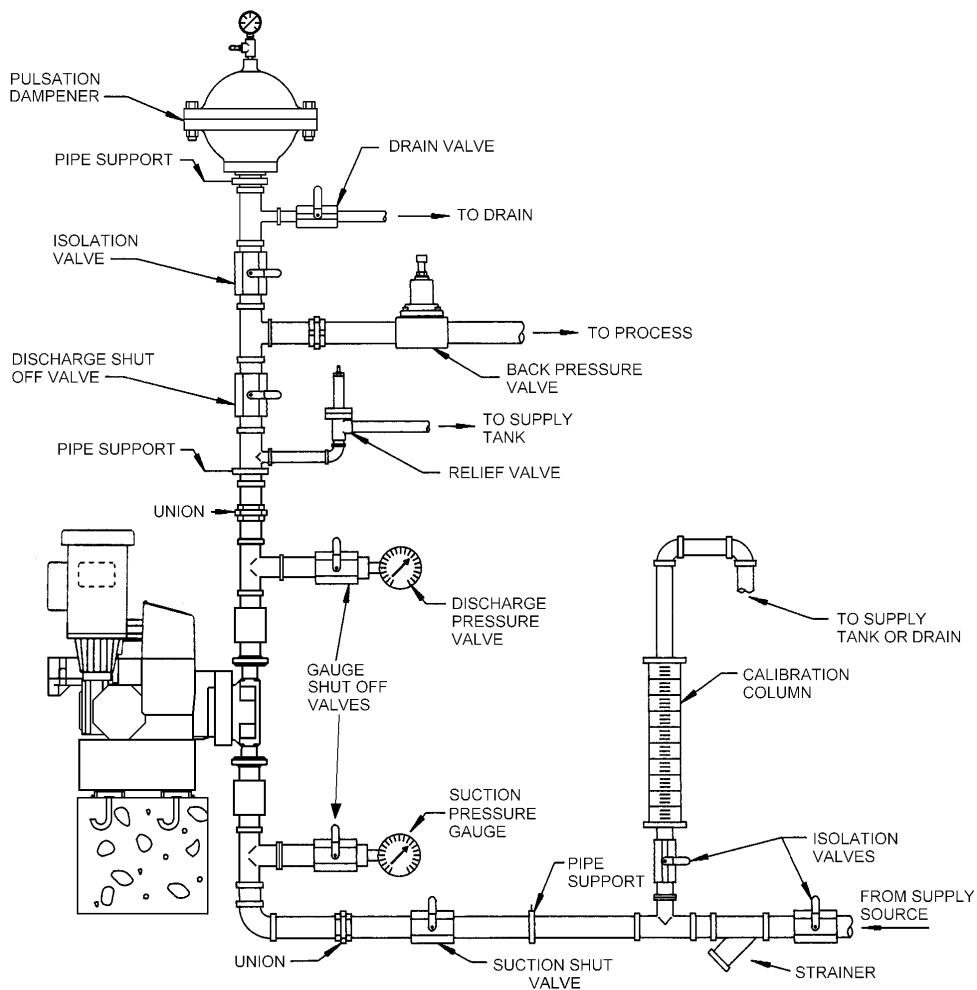

Figure 1 – Typical Installation.
2. Pump Flow Calibration is an important element of successful MLC operation. Permanent installation of a calibration column as depicted in *Figure 1* is strongly recommended.